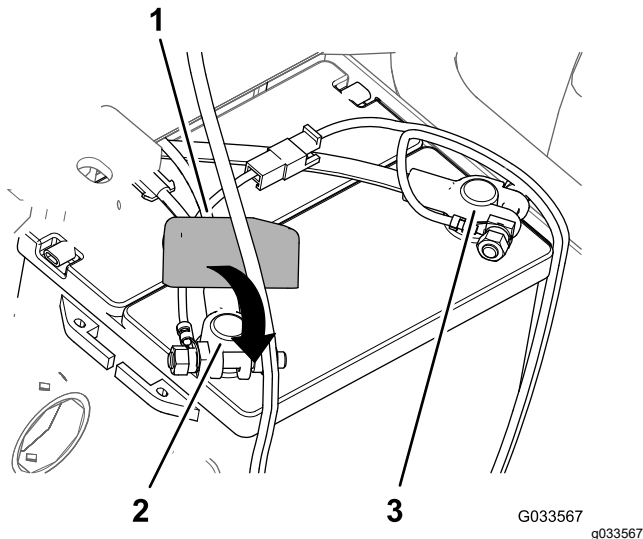

Figure 30
8. Assemble the positive battery cable onto the **positive** battery post and tighten the clamp nut by hand (Figure 30).